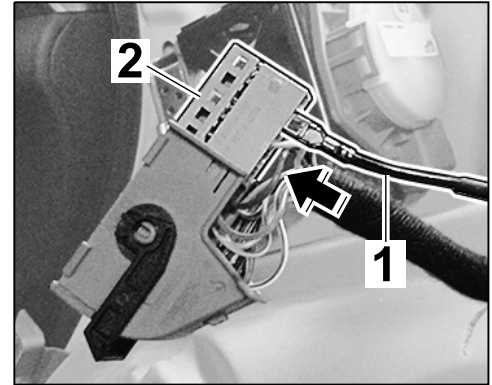

Figure 21
- 3.10.3 Insert socket contact ⇒ *Figure 21 -1-* into chamber A2 of the grey plug socket ⇒ *Figure 21 -2-*.